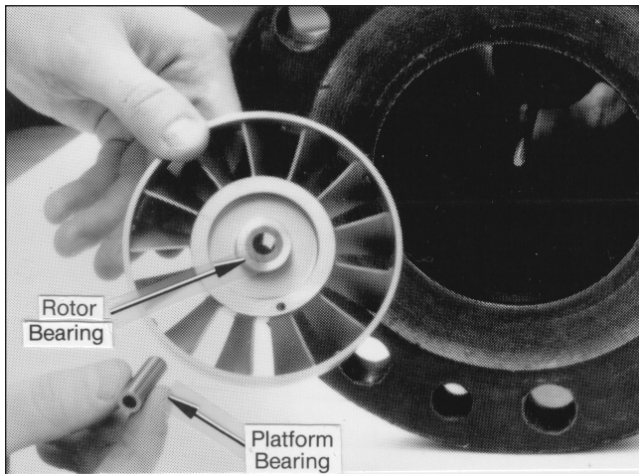

Figure 11
10. Remove rotor and platform bearings, Figure 11, using extreme care that the platform bearing is not permitted to fall from the rotor since, due to the brittleness of the bearing, a fall could result in severe damage. Inspect outside surface of bearing for grooves, chipping, roughness, and cracks, as well as cracks in end surfaces.